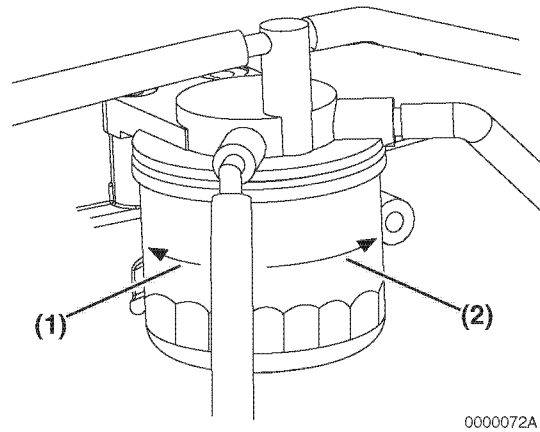

Figure 5-14
3. Remove the fuel filter with a filter wrench, turning it to the left (**Figure 5-14, (1)**). When removing the fuel filter, carefully hold it to prevent the fuel from spilling. Wipe up all spilled fuel.
5. Install the new fuel filter. Turn to the right (**Figure 5-14, (2)**) and hand-tighten it only until it comes in contact with the mounting surface. Tighten to 14 - 17 ft·lb (19.6 - 23.5 N·m; 2.0 - 2.4 kgf·m) or one additional turn using the filter wrench.